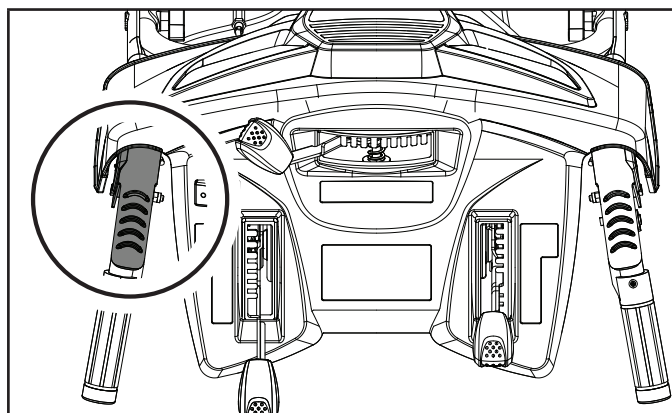

Figure 13
Self-drive control handle. Located on the left side handle (figure 13).
1. Located on the left-side (from behind the snowblower). When the snowblower has been put into gear, pushing this lever towards the handle engages the wheels. Releasing the self-drive control lever causes the machine to stop moving (Fig. 13).